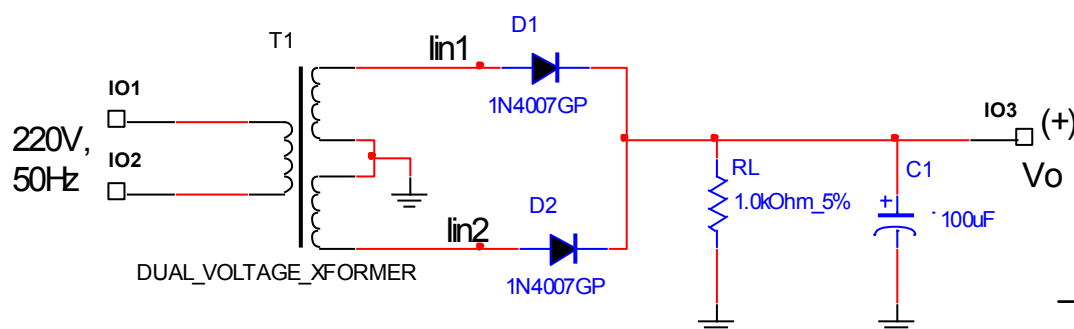

Fig4.1 Full wave rectifier with a Capacitor Filter
9. Connect the Circuit in Fig 4.1
14. Remove diode D_2 in the circuit in fig4.1